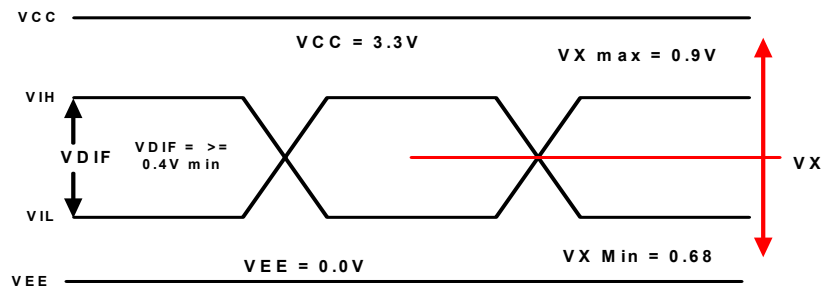

Figure 2. HSTL Differential Input Waveform Definitions
- VX(AC) is the crosspoint of the differential HSTL input signal. Normal AC operation is obtained when the crosspoint is within the VX(AC) range and the input swing lies within the VDIF(AC) specification. Violation of VX(AC) or VDIF(AC) impacts the device propagation delay, device and part-to-part skew. Refer to Figure 2.